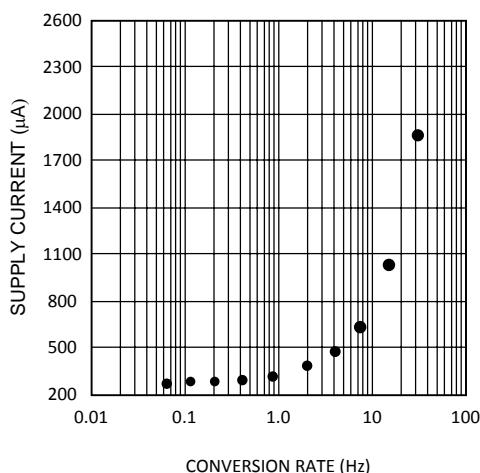

Figure 6. Supply Current vs Conversion Rate
The LM63 takes approximately 31.25 ms to convert the Local Temperature (LT), Remote Temperature (RT), and to update all of its registers. The Conversion Rate may be modified using the Conversion Rate Register. When the conversion rate is modified a delay is inserted between conversions, the actual conversion time remains at 31.25 ms. Different Conversion Rates will cause the LM63 to draw different amounts of supply current as shown in Figure 6.